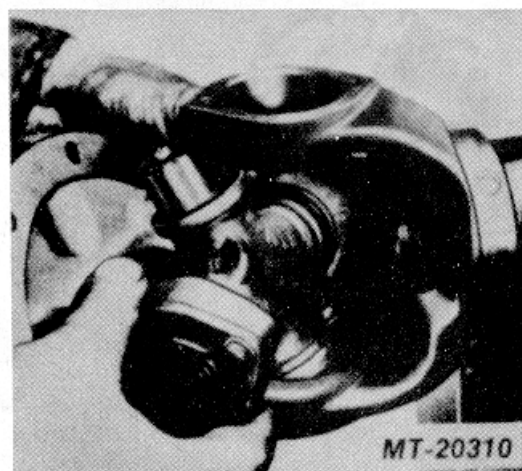

Fig. 20
3. JOURNAL CROSS - Remove by sliding it to one side of the yoke and tilting it over the top of the yoke lug (Fig. 20).